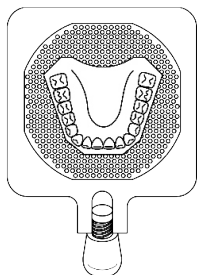

Fig. 4
- Place the impression on the vacuum plate (fig. 4)